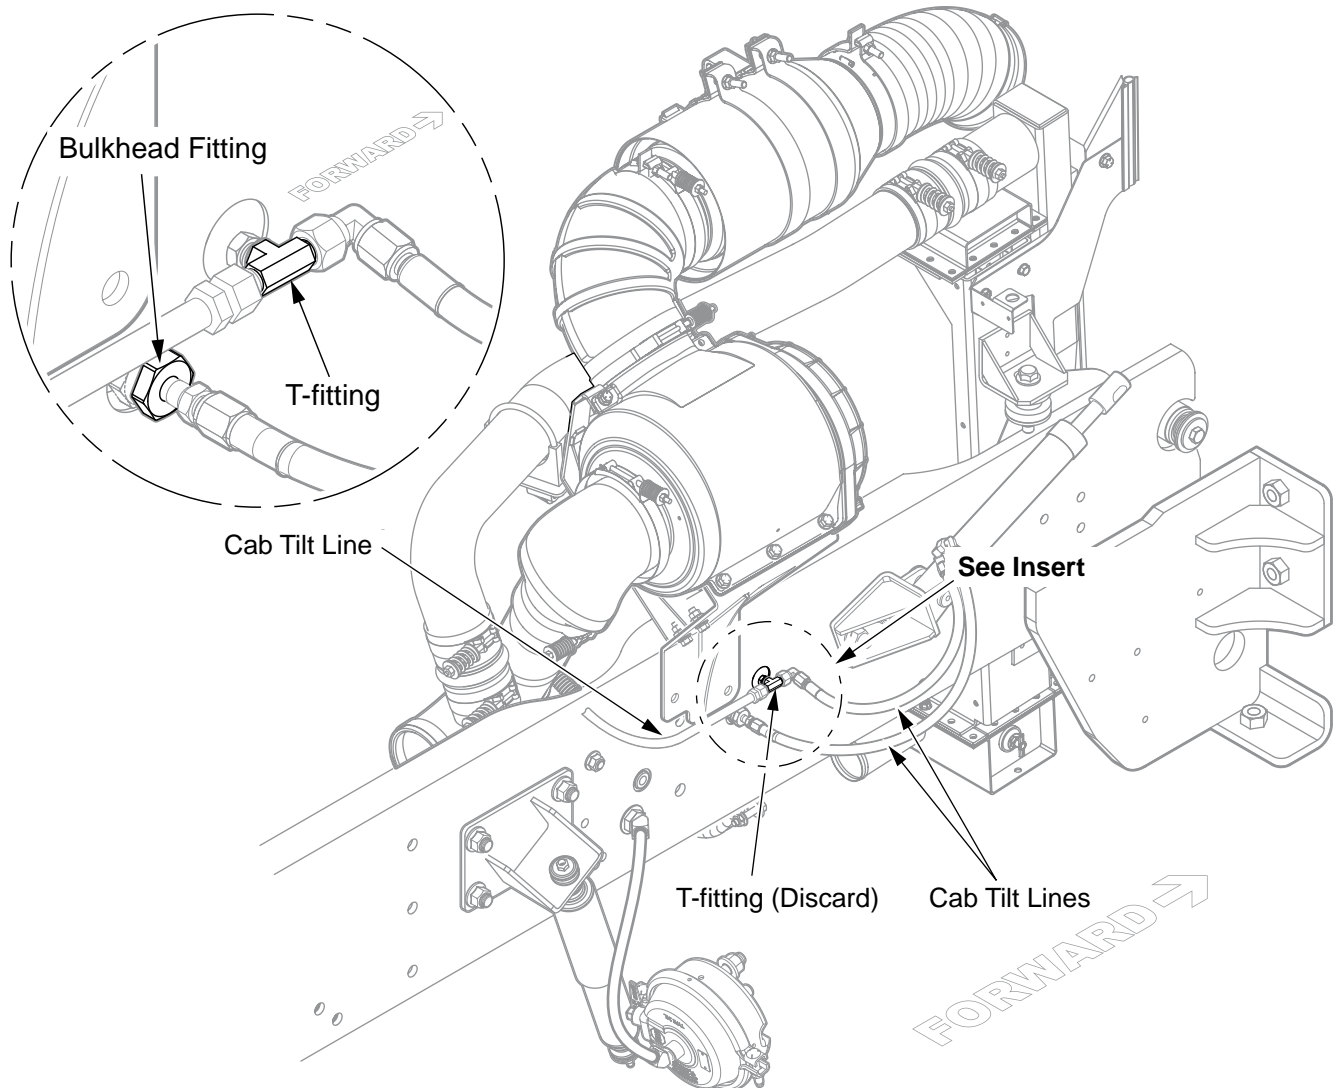

Figure 3
4. Locate the three cab tilt lines and place a reference mark on the two that are attached to the T-fitting for reassembly (see Figure 3).
5. Using a 9/16" combination wrench, disconnect three cab tilt lines, two at the T-fitting and one at the bulkhead fitting and move aside for access (see Figure 3).
15. Using a 7/16" combination wrench, remove the T-fitting from the outboard side of the frame rail and discard (ref. Figure 3).